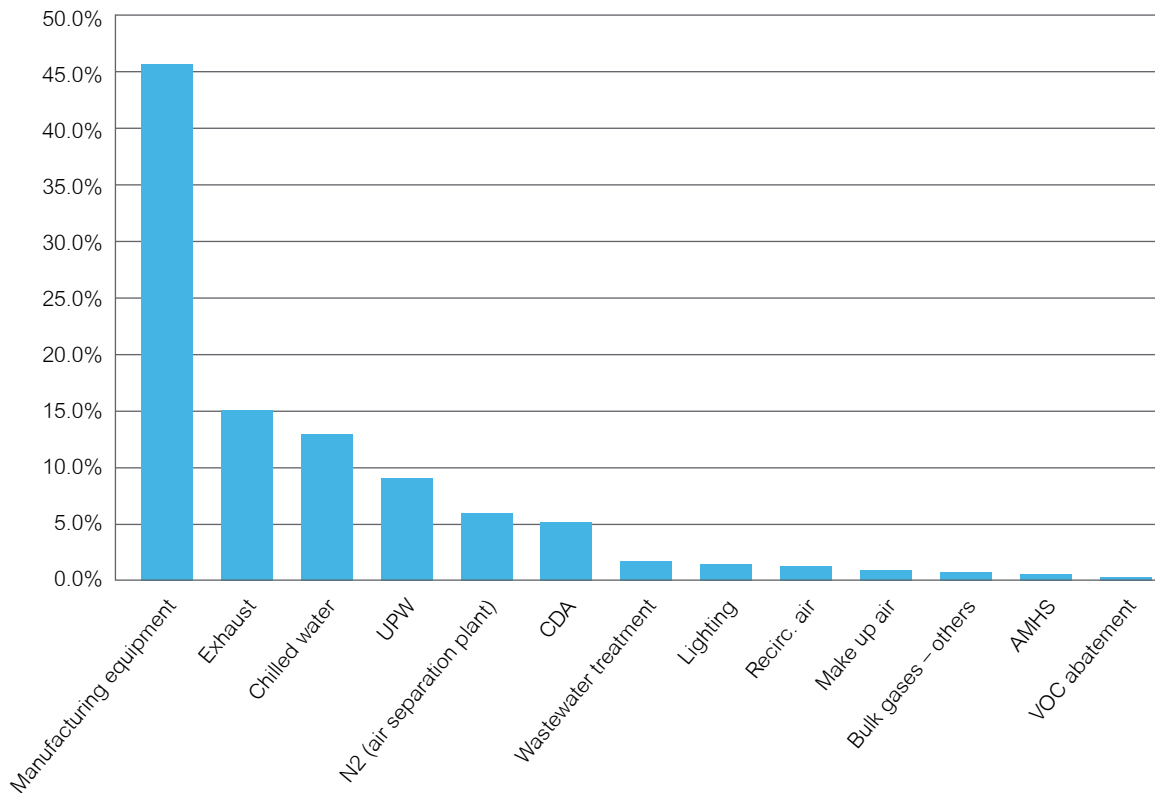

Figure 6. Continuously collect energy usage data to reveal energy usage patterns across processes and equipment types
- Reveal energy usage patterns across all processes and equipment types (see Figure 6)